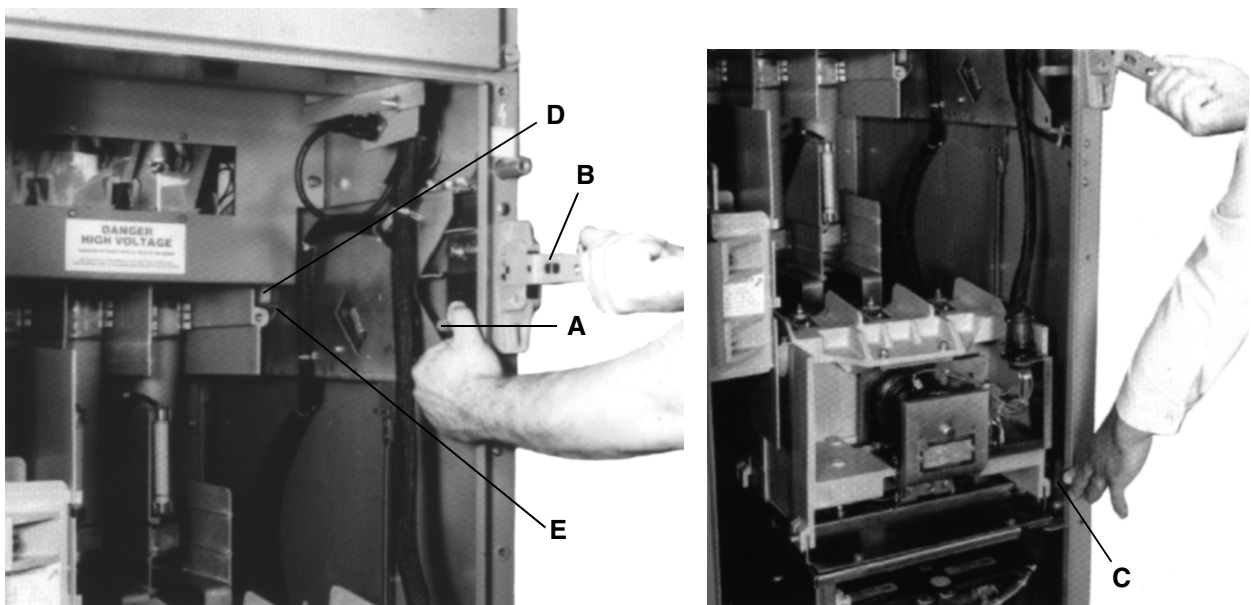

Figure 19 Isolation Switch Mechanism
3. Press down on the handle interlock lever (Fig. 19, item A) and hold while moving isolation switch handle (Fig. 19, item B) towards the ON position until it stops. Do not use excessive force (see Caution on page 14).
4. While maintaining the handle in this position using minimum amount of pressure, press in on the door interlock push bar (Fig. 19, item C) and simultaneously continue moving the operating handle until it is in the ON position. The isolation switch should now be closed.
5. Pull handle down to open isolation switch. Switch is fully open when the bail arm (Fig. 19, item D) is against its stop (Fig. 19, item E) and switch blades are about an inch from inside face of viewing window in isolation switch barrier.